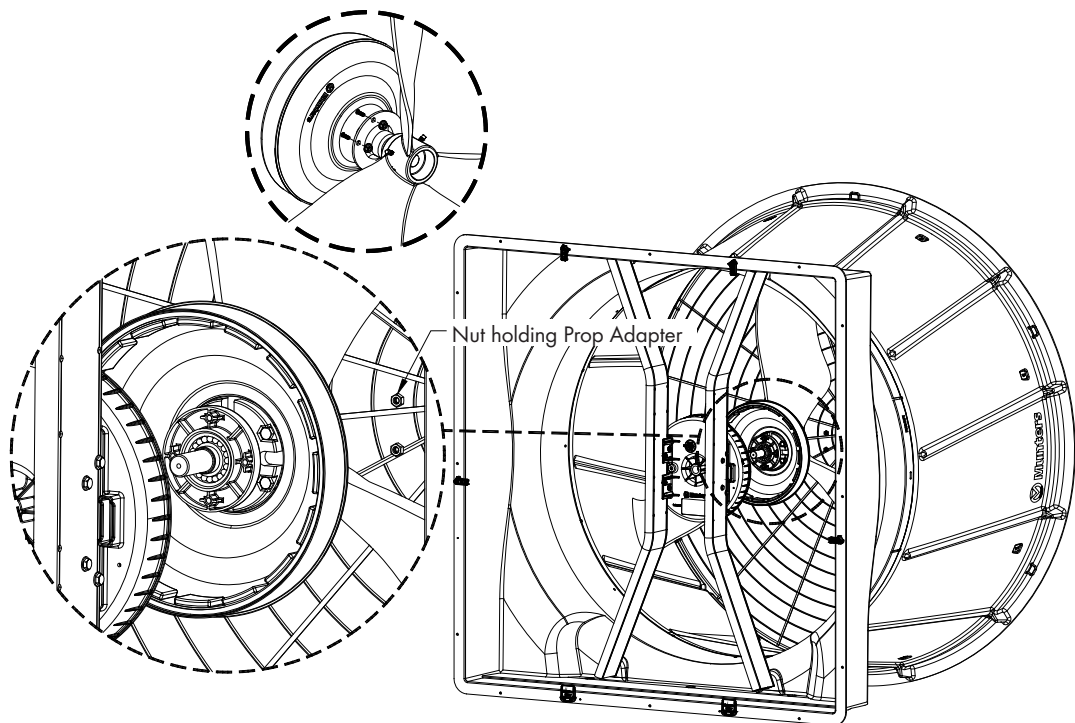

Figure 6
Once the Rotor with Hub and Propeller is removed from the Motor, remove the (4) Nuts holding the Prop Adapter to the Rotor and set aside to be reused. See Figure 6.